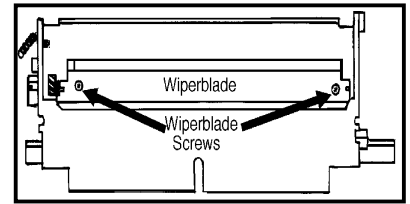

Figure 5
9. Remove the wiperblade and dump the toner out of the wastebin (Fig 5). Vacuum the remaining toner from the waste bin being VERY CAREFUL not to disturb the small mylar blade.